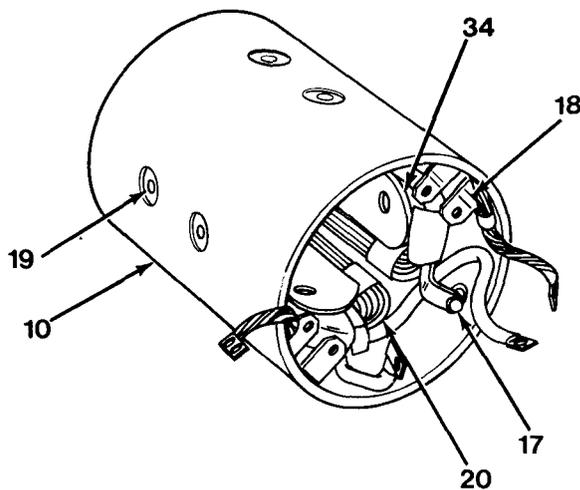

Figure 10-6
6. Remove connecting field screw (17) and field coil solenoid connector (18) from housing (10, Figure 10-6).